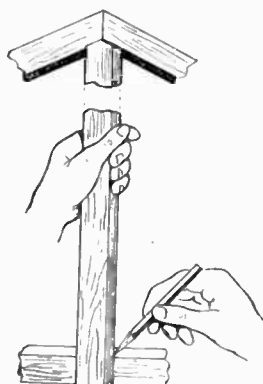
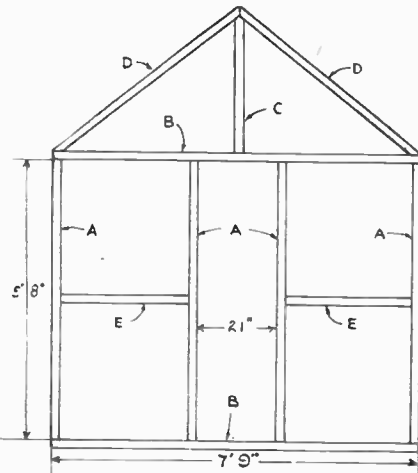

Fig. 4—Fitting centre upright to exact length
Fig. 9—Parts forming the rear frame
Nail the eight 3½ in. pieces in position. Drill the two pieces (D) to take 3 in. nails, two at each end, and fit in position on the frame. Finally fit the centre piece (C). This should first be held in position and marked out as shown in Fig. 4. The front frame is now complete ready for the asbestos, the fitting of which is described later.
The position of the pieces forming the rear section are shown in Fig. 9. The two (D) pieces are identical to those on the front section and if the previous instructions have been followed they will be ready cut. The (C) piece is also the same and should be marked out and cut as shown in Fig. 4. Ensure that the other pieces are right for length and that the ends are square. The rear section is then ready for assembling.